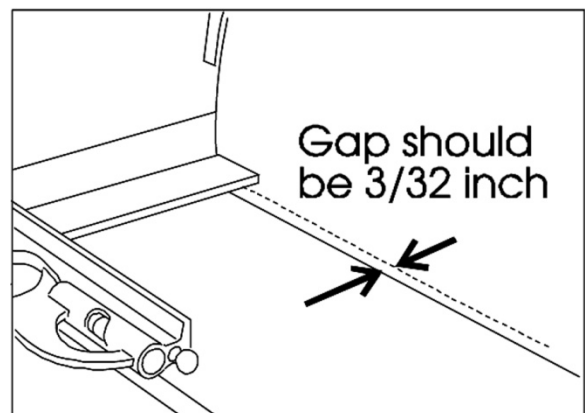

Figure 4: Table-to-disc gap measurement
4. Slide the disc in or out along its shaft until the table-to-disc gap is $\frac{3}{32}$ inch (See Figure 4).